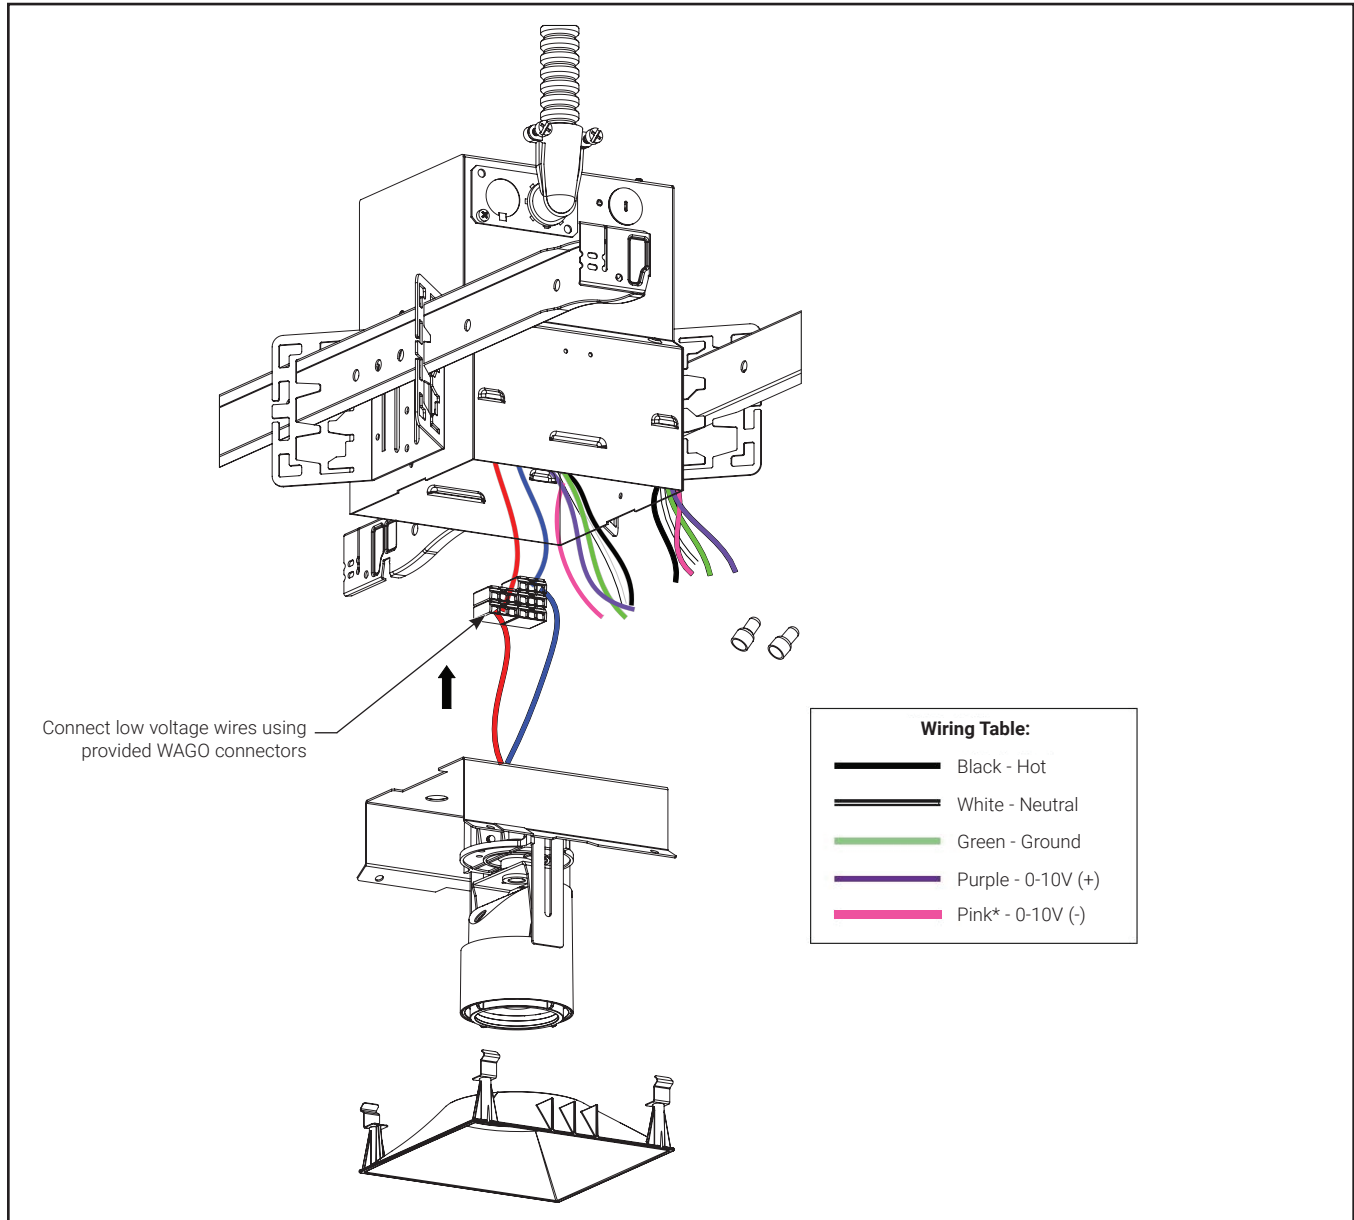

Figure 9.
5. Connect the Red and Blue low voltage wires into the provided Wago connectors. Connect the hot, neutral, ground, purple (0-10V (+)), and pink* (0-10V (-)) wires from fixture side to power feed side using wire nuts provided – minimize the lengths of wires being pushed back into the wire compartment, cut and strip wires to a shorter length if necessary. Move the Fixture Plate assembly into the housing. (Figure 9)